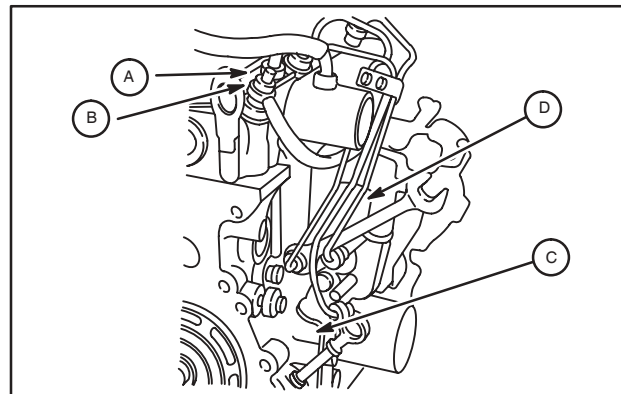

Fig. 1 – Remove Fuel Delivery Lines
1. Remove the following parts, Fig. 1.